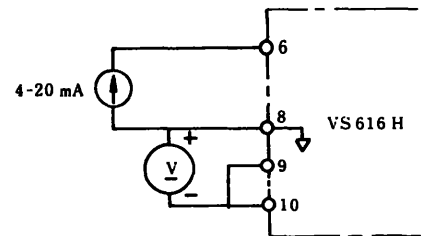

Fig. 12.11 Adjusting at Current Signal
- Connect a current signal source and a voltmeter as shown in Fig. 12.11.